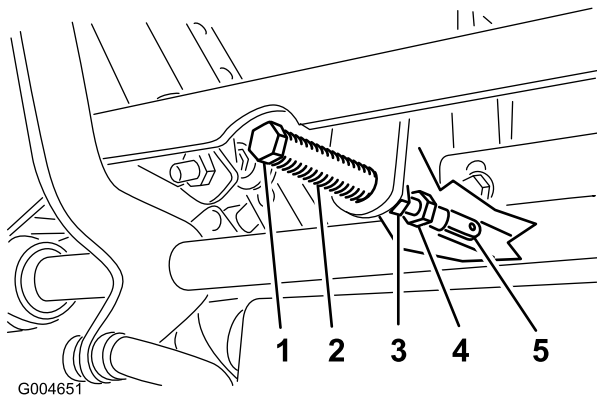

Figure 53
5. Pull the lever back until the clevis pin (on an arm above the pivot shaft) contacts the end of the slot (just beginning to put pressure on the spring) as shown in Figure 53.
7. If adjustment is needed, loosen the nut and jam nut against the yoke (Figure 53).
8. Applying slight rearward pressure on the motion-control lever, turn the head of the adjustment bolt in the appropriate direction until the control lever is centered in the NEUTRAL-LOCK position (Figure 53).
9. Tighten the nut and jam nut (Figure 53).
10. Tighten the jam nuts at the ball joints (Figure 53).